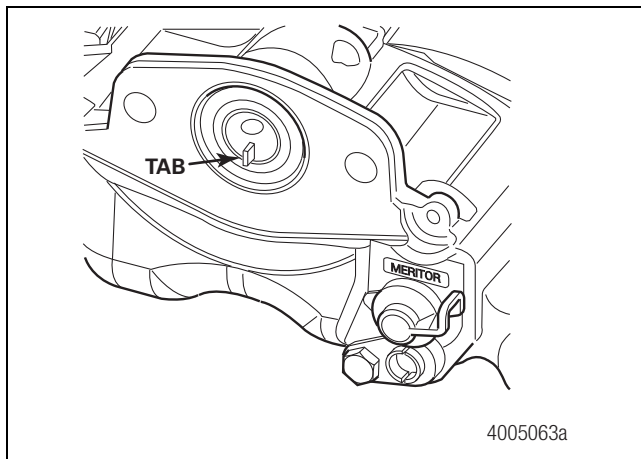
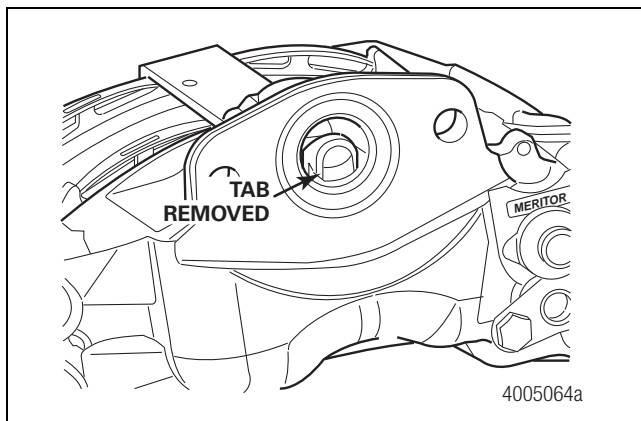

Figure 5.8
Figure 5.9
5. Before you install the air chamber onto the caliper assembly, ensure the perforated transit plug is removed from the caliper chamber seal by pulling the tab. Figure 5.8 and Figure 5.9.